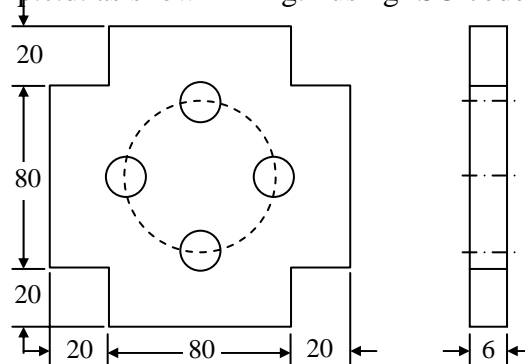

Fig.1
4. Prepare manual part program for machining the component with 4 holes of 10 mm diameter on 60 mm p.c.d. as shown in Fig.1 using ISO code. Do not use G41 or G42.